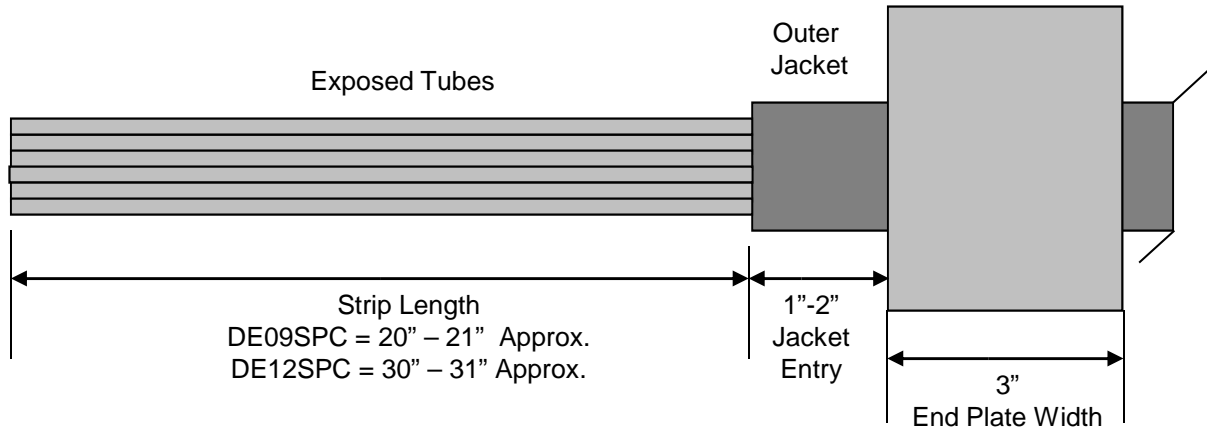

Figure 3
6.6.1 If installing dielectric tube cables, see **Fig. 3**. Allow for about 1"-2" of outer jacket beyond the End Plate inside the Splice Case and mark jacket.